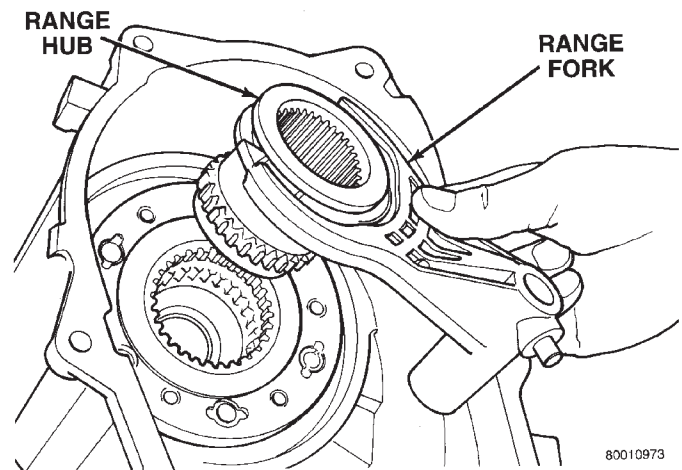

Fig. 27 Range Fork And Hub Removal
(3) Remove range fork and hub as assembly. Note fork position for installation reference (Fig. 27).